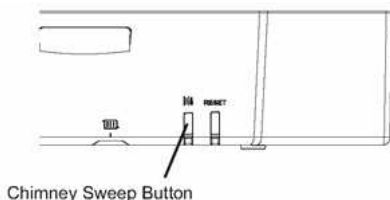

Fig. 62
1. The maximum rate CO₂ setting can only be reached via the minimum rate. Press the Chimney Sweep (Fig. 62) button for approximately 3 seconds. The status signal for the Chimney Sweep button is orange and flashes green briefly to show that the minimum rate is selected.